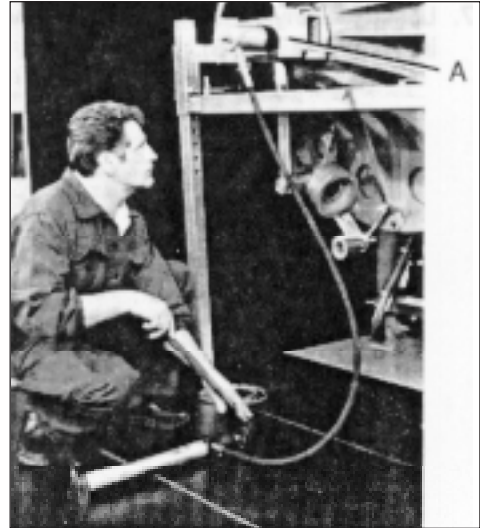

Figure 8. Pressing out the bearing
15. Install the yoke A with two screws, see figure 8.